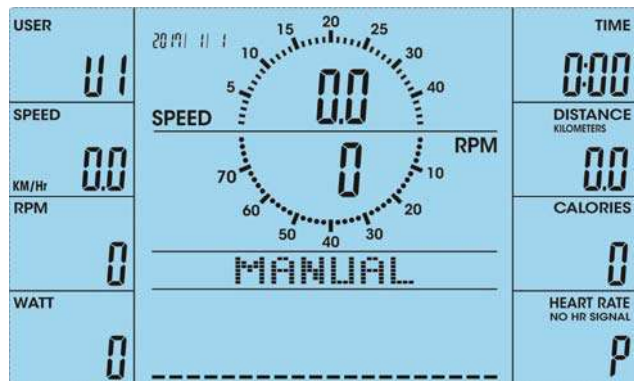

FIGURE 16
1. Press ENTER into MANUAL program (FIGURE 16).
1. After selecting MANUAL mode, press ENTER to enter (FIGURE 16). User can use UP or DOWN to increase or decrease Load level (from 1 to 16) and press ENTER to confirm.